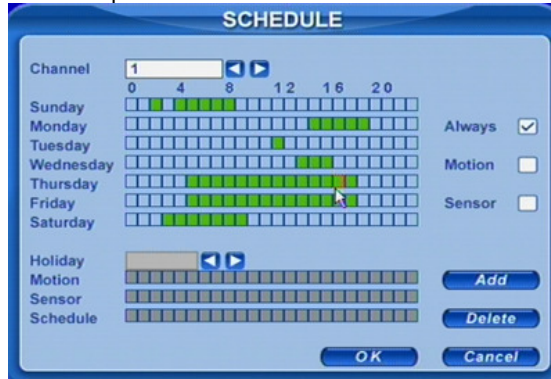

Fig 3.8 Schedule Setup
STEP1 Enter SCHEDULE configuration. Select cameras and Always, see Fig 3.8 Schedule Setup.